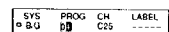

Fig. 5
- Select the second element of the double-digit number with Δ or ∇ — or the number buttons (e.g. For «04», select «4» here) (See Fig. 5) and press OK.